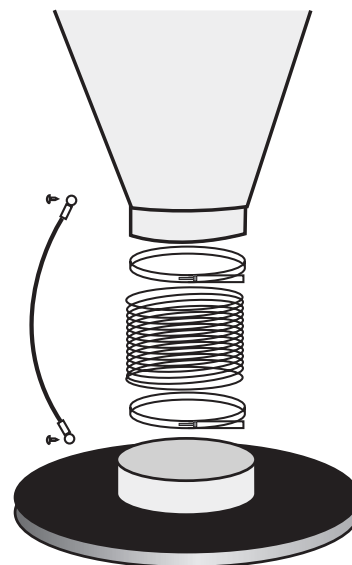

FIG. 15
- 18** To ground the filter, attach the ring terminal on the braided ground wire from the Motor Assembly (A) to a bolt on the filter plate, under the nut, then attach the alligator clip to the filter's cage [FIG. 15].